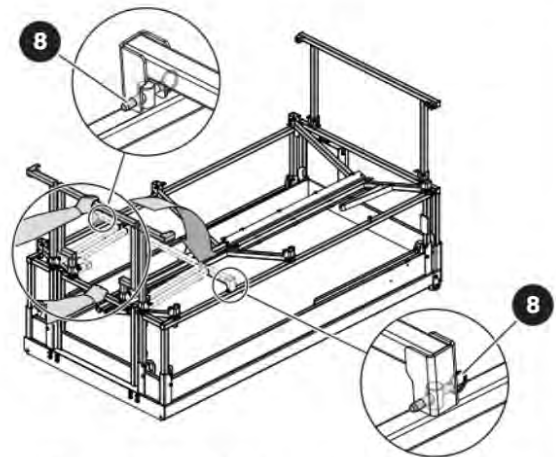

Figure 3-22. Fold down the rear gate.
- Hold the mid-rail with one hand and use the other hand to fold down the rear gate. Refer to Figure 3-22 for hand positions. Lock into place by installing pins 9. Ensure the detent ball of the pin is all the way through.
- Remove locking pins from extension guardrail 9. Hold the mid-rail with one hand and fold down the guardrail with the other hand (refer to Figure 3-22 for hand positions). Insert pin 10 to lock the guardrail into place on the mounting post. Ensure that the detent ball of the pin is all the way through.